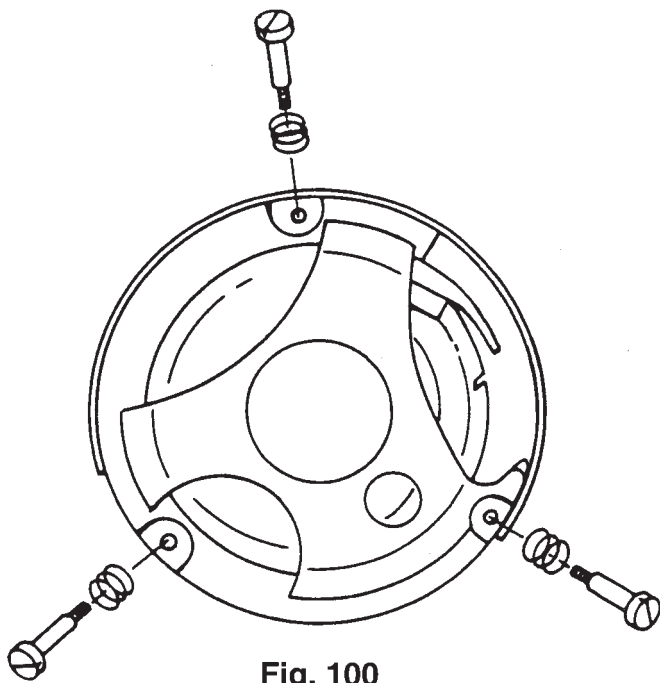

Fig. 100
- Remove the three screws with springs from behind (fig. 100).
- Secure the sewing hook gib from behind with three screws with springs (fig. 100).